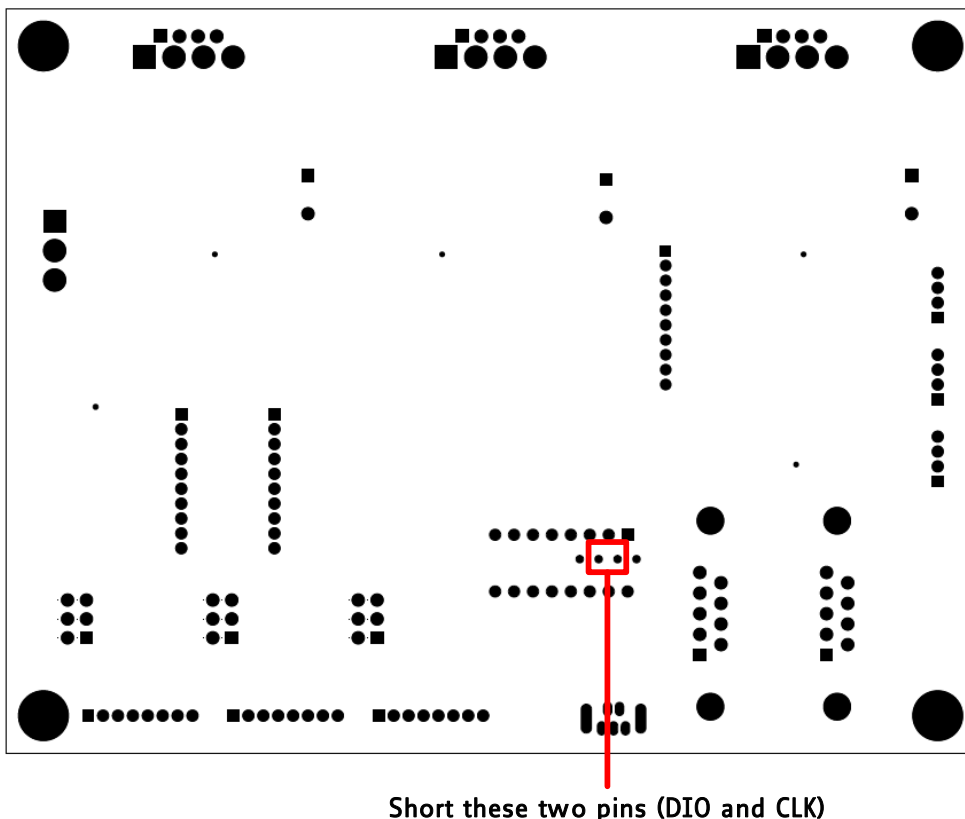

Figure 5.1 Reset pins (bottom view of module)
2. Short two pads as marked in Figure 5.1.